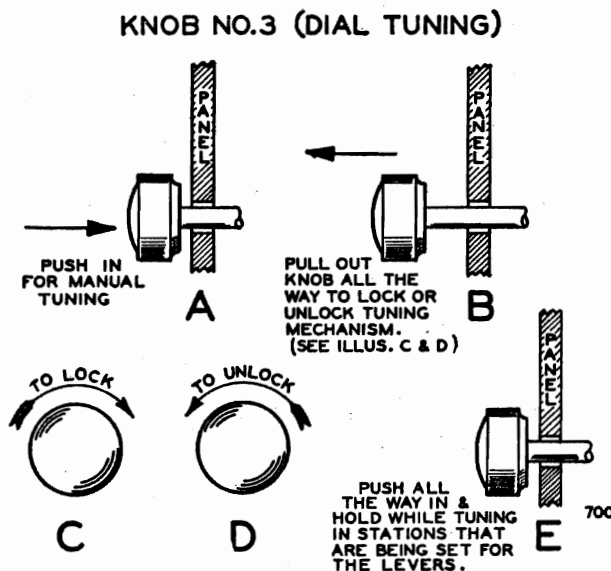

FIG. 3
1. Pull the dial tuning knob all the way out (See Illus. "B," Fig. 3), and rotate the tuning knob to the left (counterclockwise) until it cannot be turned any further (See Illus. "D," Fig. 3). This will unlock the automatic tuner mechanism. (NOTE:—Automatic tuner mechanism is locked TIGHT when radio is shipped from the factory.)
2. Press down all the way any one of the automatic tuner levers. Holding it down firmly, press in on the dial tuning knob No. 3 and tune in the station indicated on the station call letter tab on this lever. You will note that in order to tune the station, the dial tuning knob will have to be pressed in (See Illus. "E," Fig. 3). Turn the dial tuning knob very slowly back and forth (while still holding the automatic tuner lever in downward position), noting the width of the shadow on the screen of the cathode-ray tuning indicator. Minimum width on the tuning indicator indicates the ideal tuning position (resonance). The station will then be clearest and accurately tuned in.
5. Pull the dial tuning knob all the way out (See Illus. "B," Fig. 3) and rotate the tuning knob to the right (clockwise) until it cannot be turned any further (See Illus. "C," Fig. 3).